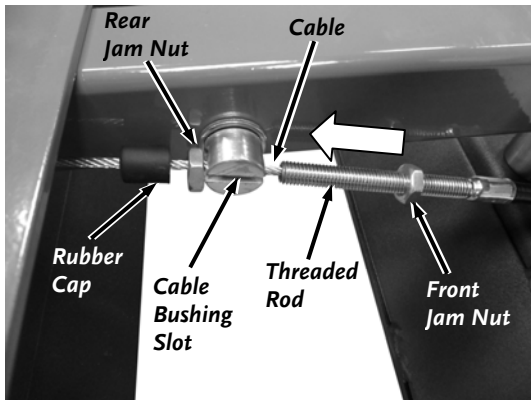

Figure 23
29. Insert the Height Adjust Cable under the front Crossmembers a position it near the Cable Bushing (**Figure 23**).